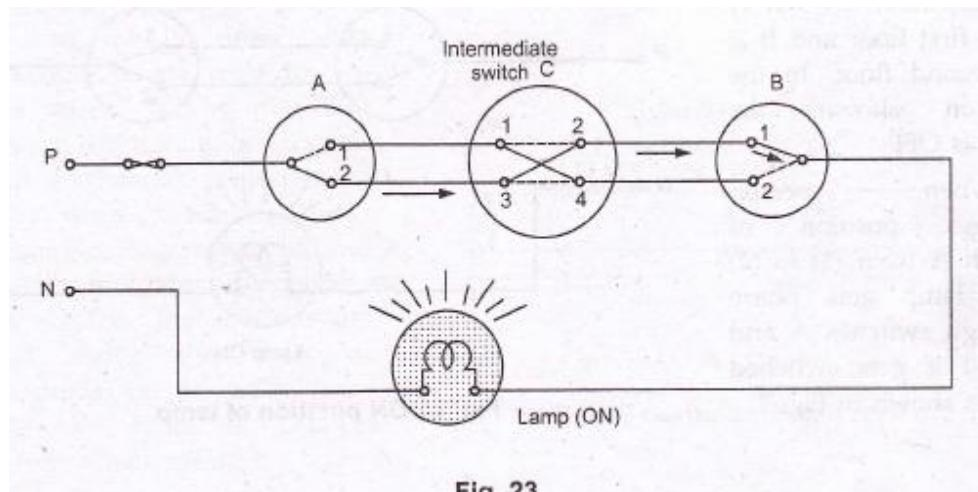

Fig. 23
- 3) Explain **Three way control of lamps**: This is also a type of stair case wiring. It consist of two way switches A and B and one intermediate switch C. The circuit used to have three way control of lamps is shown in the fig. 23.
In the position shown is, fig. 23, the lamp is ON.